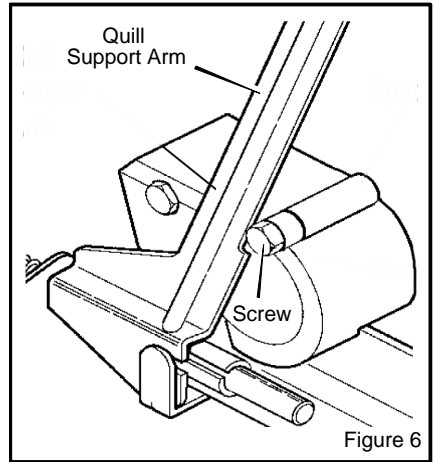

Figure 6
9. When the clutch lever is in NEUTRAL position, the **quill support arm** must be close to the **screw** as shown in Figure 6.